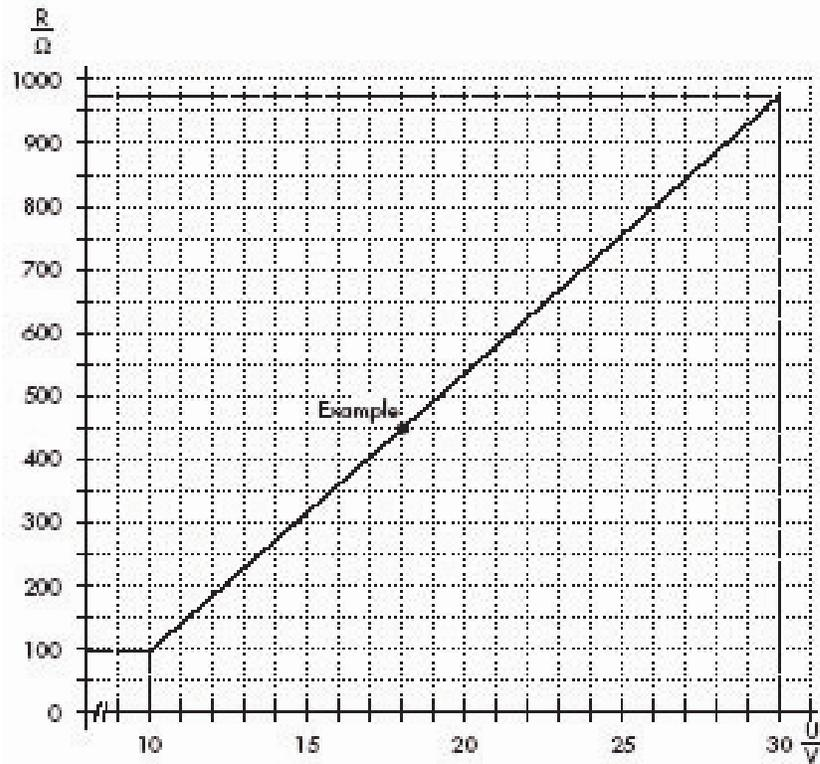

FIGURE A-1. Diagram to determine the maximum load resistance as a function of the power supply.
- Read off the maximum load resistance for your power supply from Figure A-1.